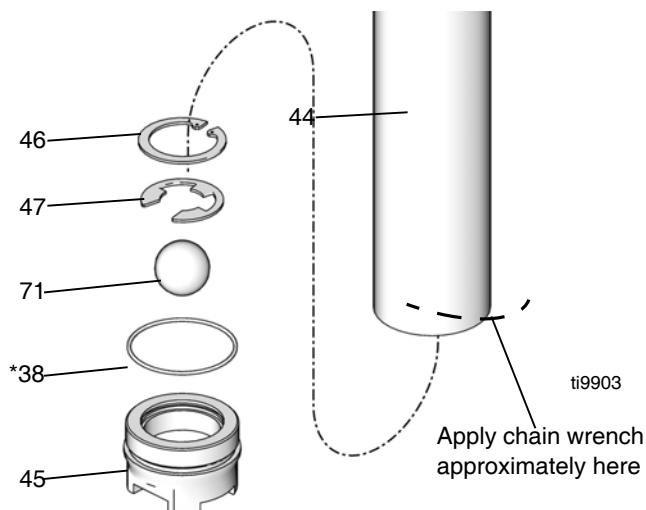

FIG. 17
When removing the suction tube, be very careful not to bend, dent, or damage it. To avoid damage, use the chain wrench only at the top and bottom of the suction tube as indicated in FIG. 16 and FIG. 17. Do not apply the wrench to the middle of the suction tube.
3. With the foot valve still in place to support the suction tube, use a chain wrench near the bottom of the suction tube at the point indicated in FIG. 17, to loosen the suction tube (44) from the pump body (34).
4. Remove the foot valve assembly from the suction tube (44).
5. Remove retaining ring (46), snap ring (47), ball (71), and o-ring (38*) from foot valve (45). Inspect all parts for damage. See FIG. 17.